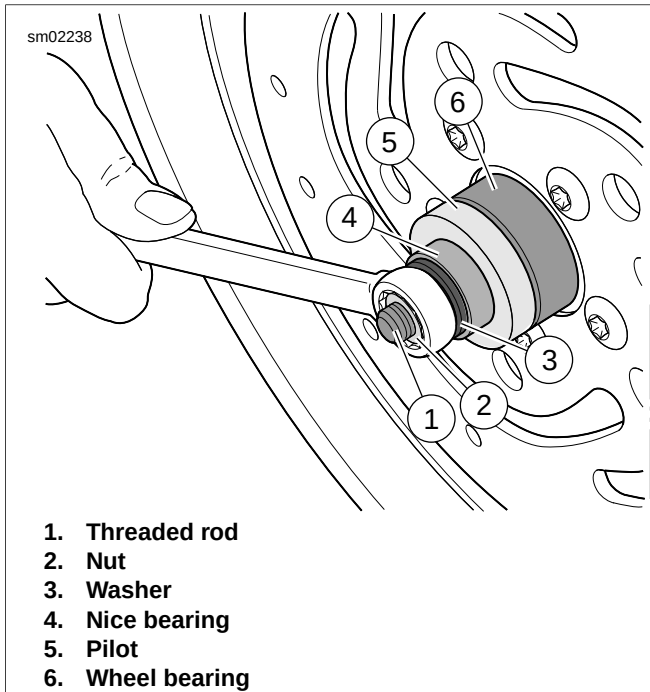

Figure 2-18. Installing Bearing
- c. See Figure 2-18. Place the **new** bearing (6) on rod (1) with lettered side facing away from wheel center-line.
- d. Install pilot (5), Nice bearing (4), washer (3) and nut (2) over rod.
2. Hold hex end of threaded rod (1) and turn nut (2) to install bearing (6) into primary side of hub. Bearing will be fully seated when nut can no longer be turned. Remove tool.